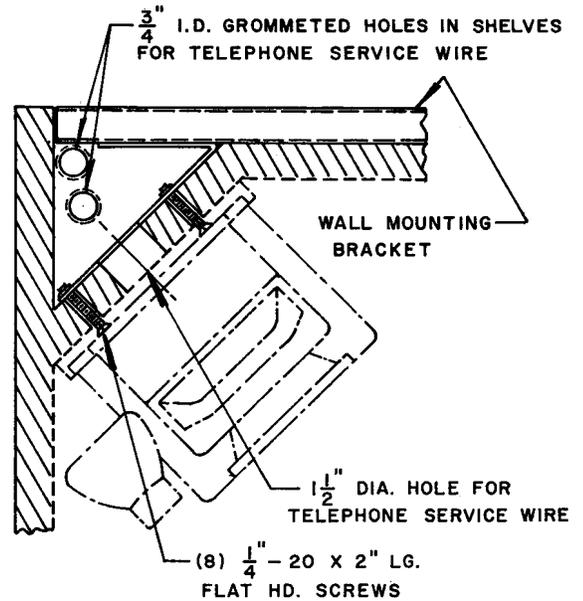

Fig. 4
4.05 Eight 1/4 - 20 x 2 inch FH machine screws are furnished with the shelf to fasten the coin telephone. Place screws through the coin telephone and shelf to the threaded wing plate of the mounting bracket. (See Fig. 4)